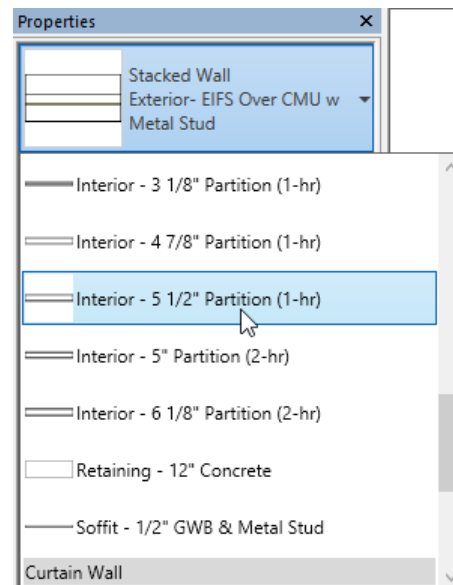

Figure 3-80 Selecting the interior wall type from the **Properties** palette
2. Select the required option from the **Type Selector** drop-down list in the **Properties** palette, as shown in Figure 3-80.